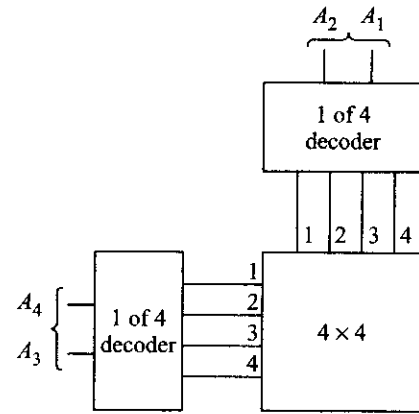

Fig. 13.14
Take another look at the 4×4 memory in Fig. 13.12c. To select a single cell, we must activate one and only one row, and one and only one column. This suggests the use of two 1 of 4 binary to decimal decoders as shown in Fig. 13.14. Consider the selection of the cell at address 43 (row 4 and column 3). If $A_4 = 1$ and $A_3 = 1$, the decoder will hold the row 4 line high while all other row lines will be low. Similarly, if $A_2 = 1$ and $A_1 = 0$, the decoder will hold column 3 high and all other column lines low. Thus an input $A_4A_3A_2A_1 = 1110$ will select cell 43. We can consider A_4A_3 as a row address of 2 bits and A_2A_1 as a column address of 2 bits. Taken together, any cell in the array can be uniquely specified by the 4-bit address $A_4A_3A_2A_1$. As another example, the address $A_4A_3A_2A_1 = 0110$ selects the cell at row 2 and column 3 (address 23).
The address decoders shown in Fig. 13.14 further reduce the number of address lines needed to uniquely locate a memory cell, and they are almost always included on the memory chip. Recall that
11. The address applied in Fig. 13.14 is $A_4A_3A_2A_1 = 1010$. What cell is being accessed?